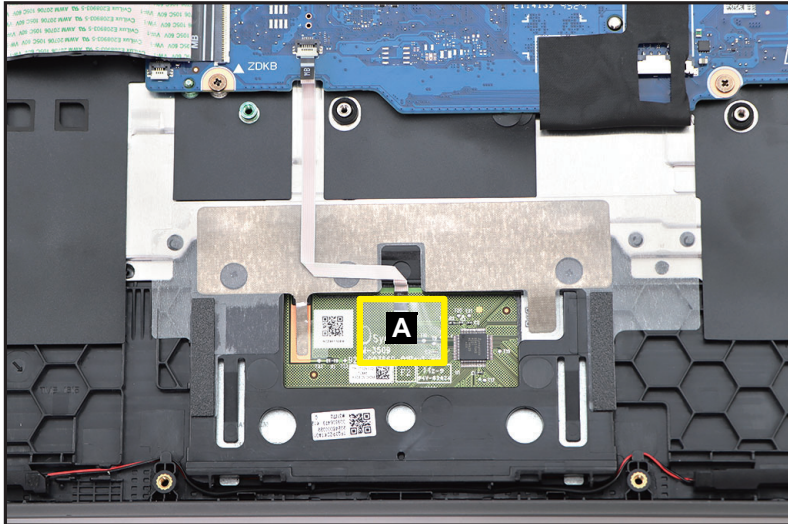

Figure 3-13. Touchpad Module Removal
1. Detach the mylar (A) securing the touchpad FFC connection (Figure 3-13).